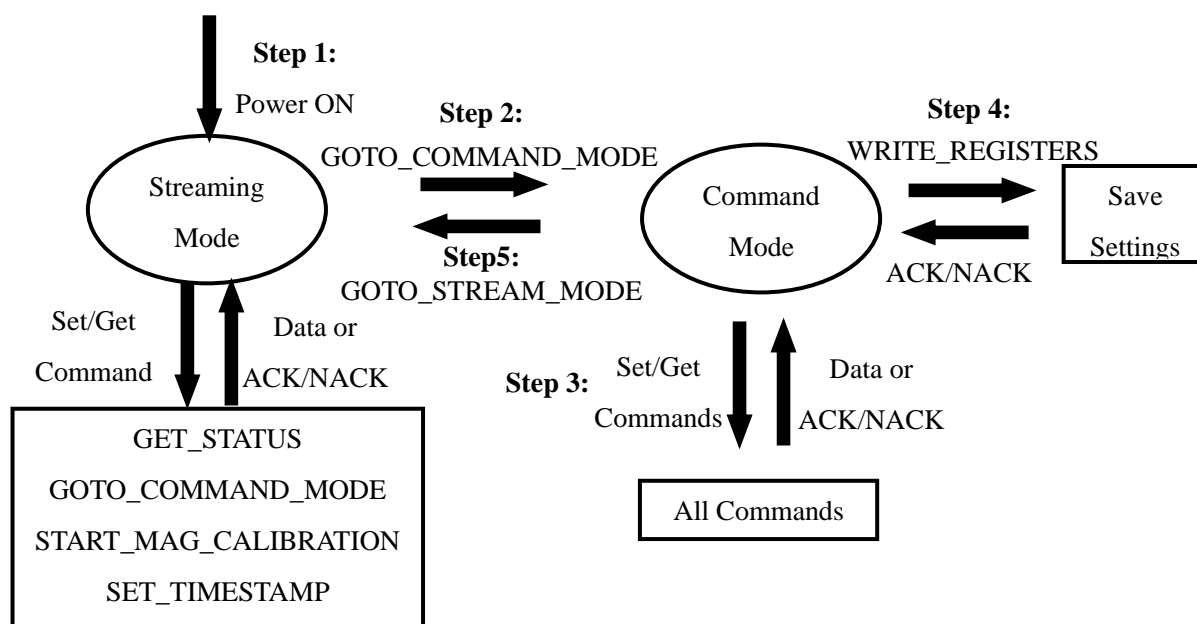

Figure 2.1. Flowchart of sensor parameters setting
Figure 2.1 shows the flowchart for changing the parameters of LPMS devices.
- Only 4 commands are executable in streaming mode, see Figure 2.1.
- Command WRITE_REGISTERS must be executed after changing sensor parameters, or all changes fail to set up after power down, see Step 4 in Figure 2.1.